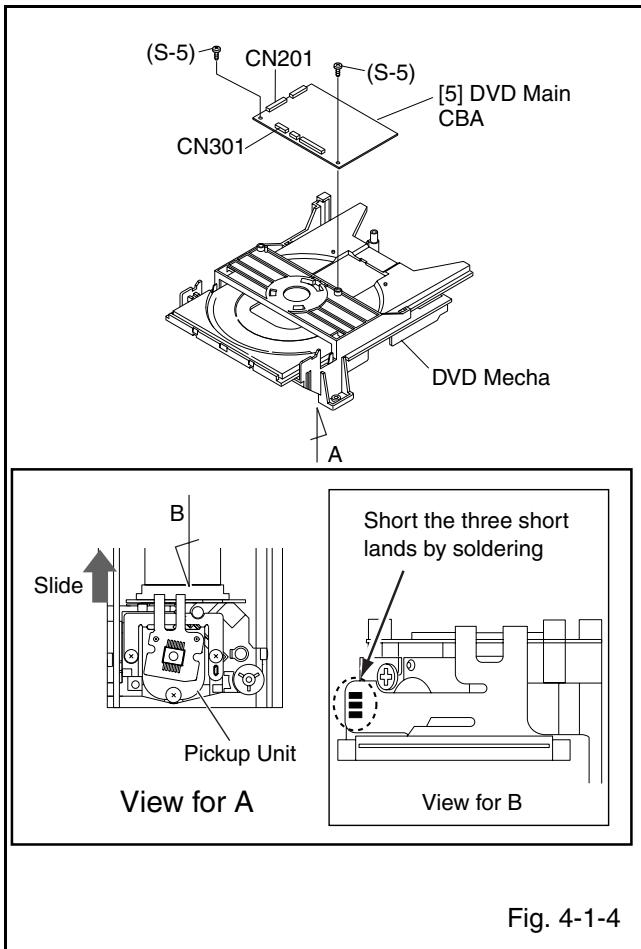

Fig. 4-1-4
- 2-1. Slide the pickup unit as shown in Fig. 4-1-4.
- 2-2. Short the three short lands of FPC cable with solder before removing the FFC cable (CN301) from it. If you disconnect the FFC cable (CN301), the laser diode of pickup will be destroyed. (Fig. 4-1-4)
- 2-3. Disconnect Connector (CN201). Remove two Screws (S-5) and lift the DVD Main CBA. (Fig. 4-1-4)
**CAUTION 3:** When reassembling, confirm the FFC cable (CN301) is connected completely. Then remove the solder from the three short lands of FPC cable. (Fig. 4-1-4)